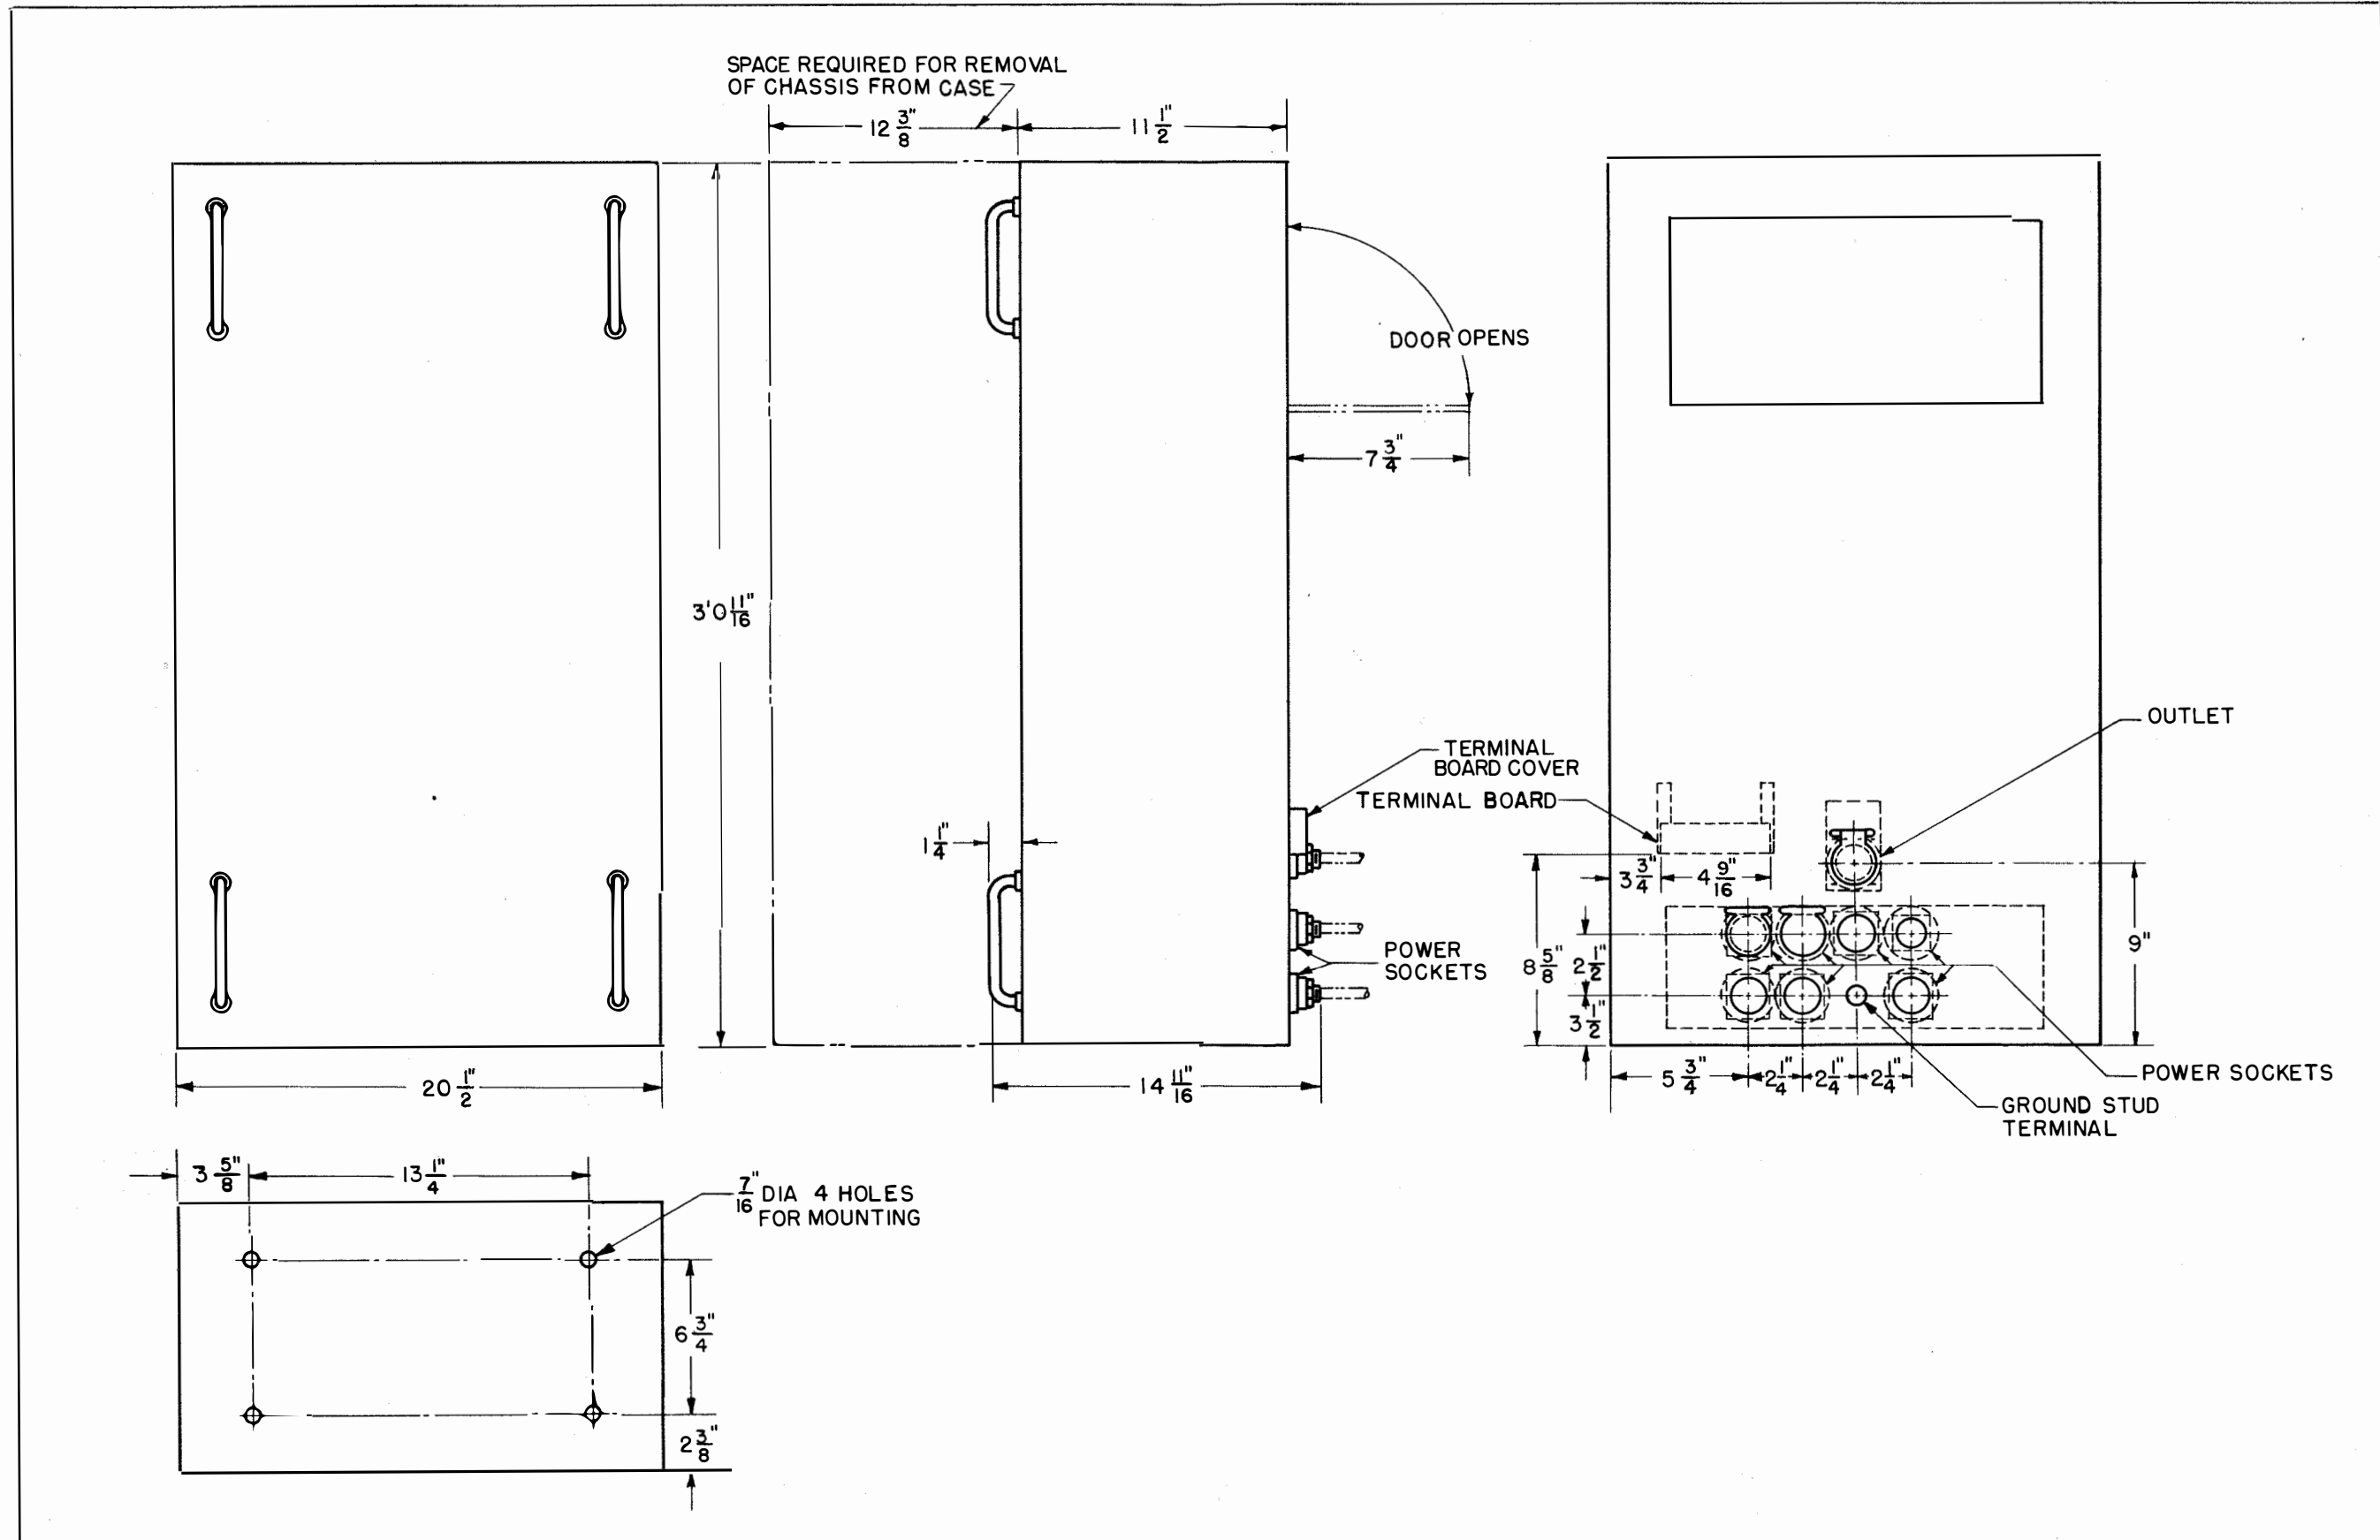

Figure 3-2. Outline Drawing, Rectifier Navy Type CG-2012
(3) Models TCU, TCU-1 and TCU-2 consist of I-F Transmitter Navy Type CG-52205, Rectifier Navy Type CG-20122 and Control Unit CG-23241. (See figures 3-2, 3-3 and 3-4.)